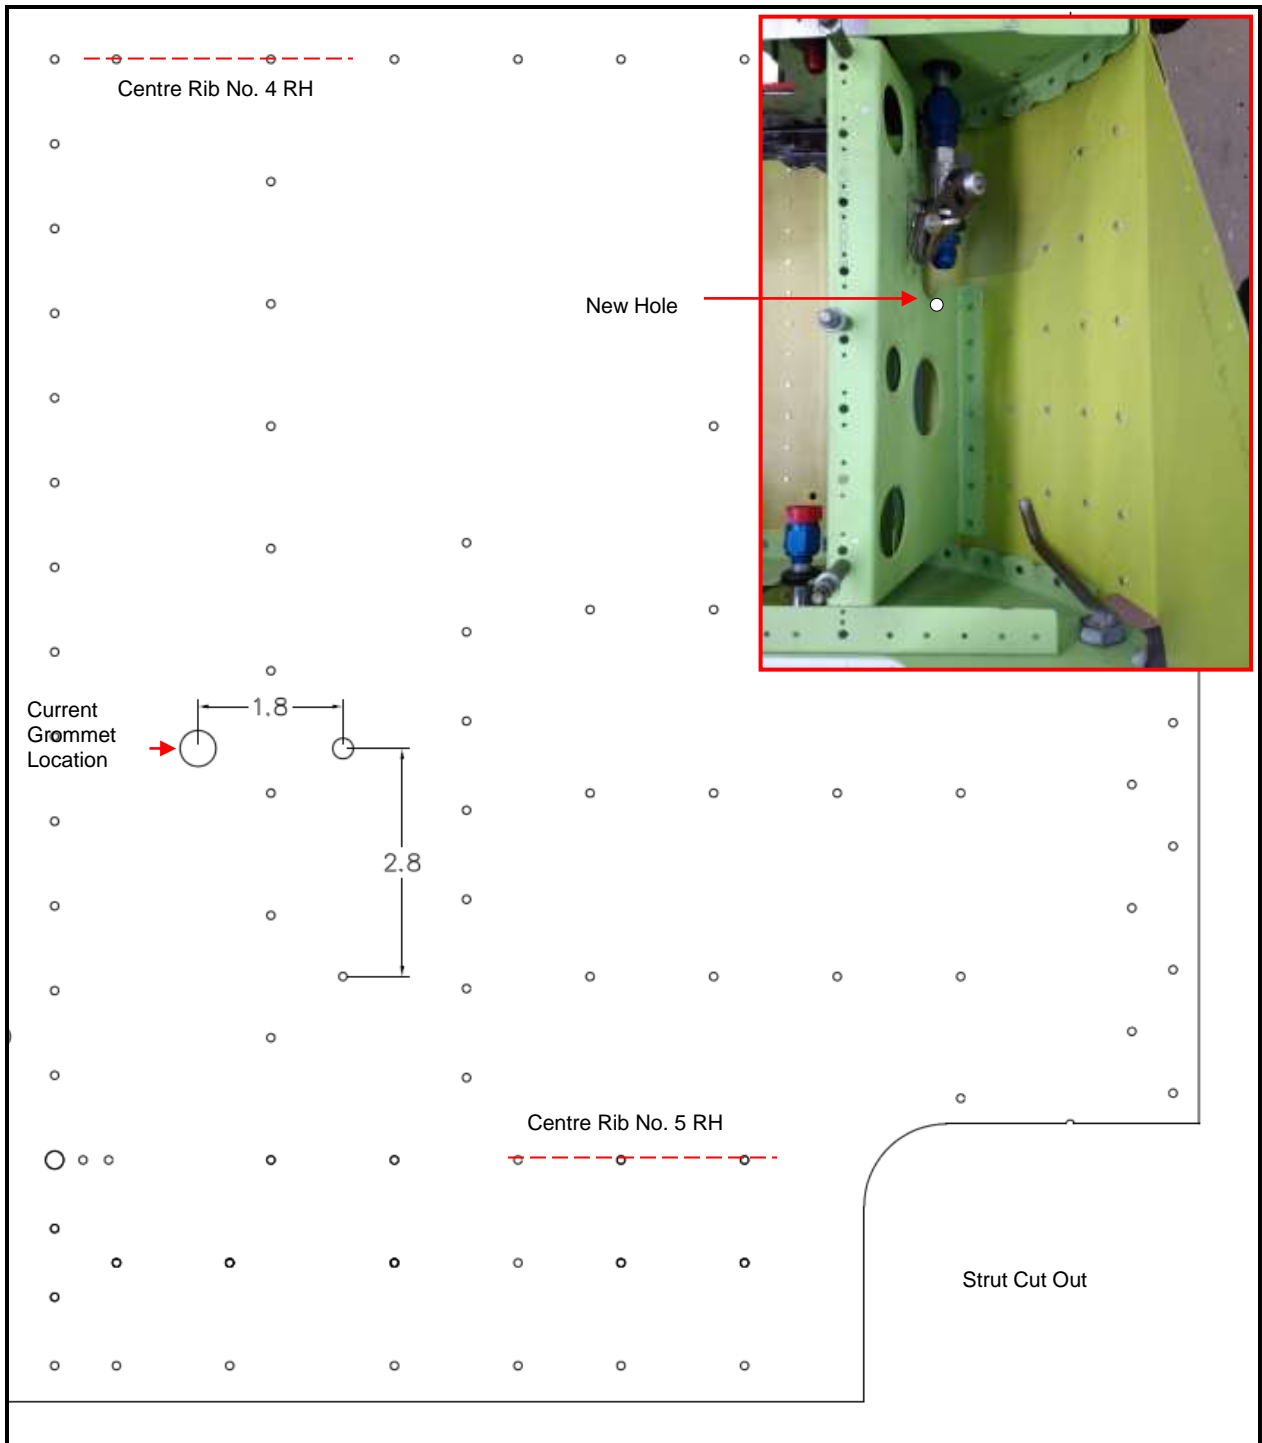

Figure 9: Hole 7
14. Drill ¼ in. hole through bottom skin located outboard of the seat rail rib RH aft (GA8-532021-259) adjacent to grommet, Figure 9.